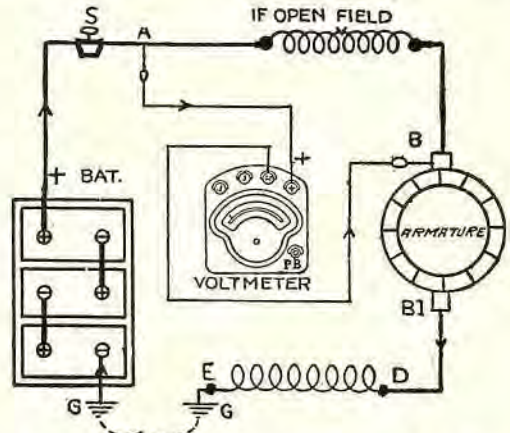

Fig. 4. Test for an open circuit in the motor field which would cause the motor not to operate. Use 30-volt terminal and scale.
To test for an open circuit in the motor field: See Fig. 4. Connect meter with the 30-volt terminal. Place voltmeter connections on one end of the field at (A) and the other at brush (B). Press starting switch (S).